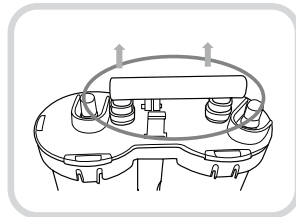

Fig. 8
7. Pull out the Filters by hand and disassemble the Inter Filter Connector that connects Filter (1) to Filter (2). (Fig 8).